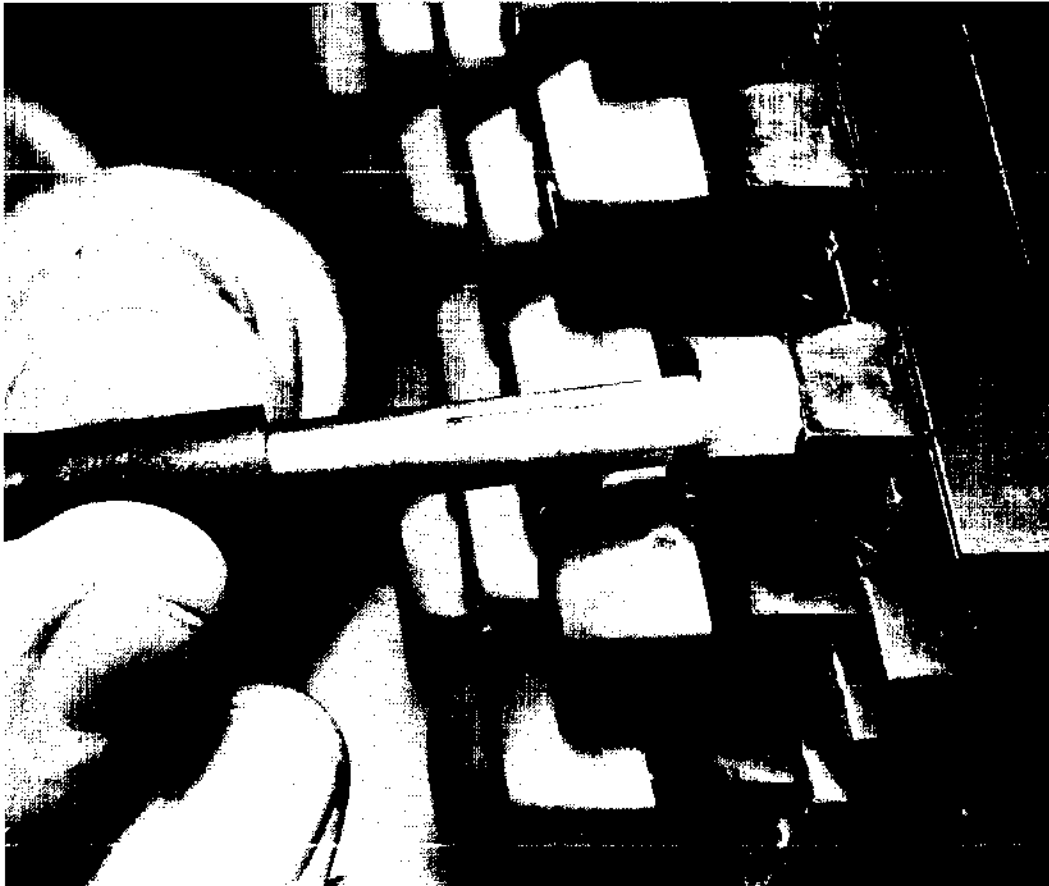

Figure 5-9
- i. Place the insertion tool into the guide matching keyway slot and key. Press the tool firmly straight down until the contacts are seated firmly (the tool clicks). (See figure 5-9)